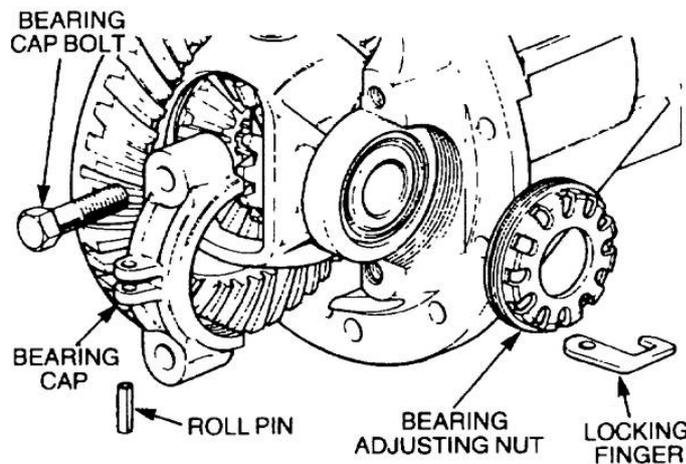

Figure 249 Removal of the Locking Finger and Adjusting Nut
- b. Remove the roll pins securing the adjusting nut locking fingers to the side bearing caps (Figure 249). Remove the locking fingers and unscrew the adjusting nuts.